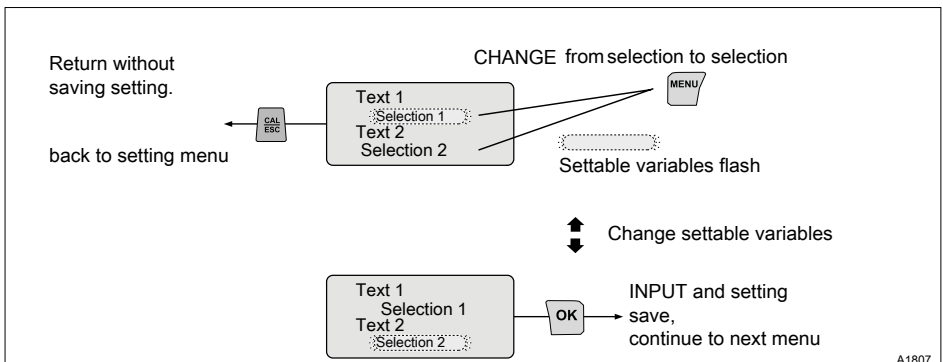

Fig. 23: Functions within the menu items
2. Pressing [OK] exits the menu points again and, at the same time, saves the set variables in the menu point, see Fig. 23.
1. ➤ You have reached a menu point: You can see words and figures, see Fig. 23